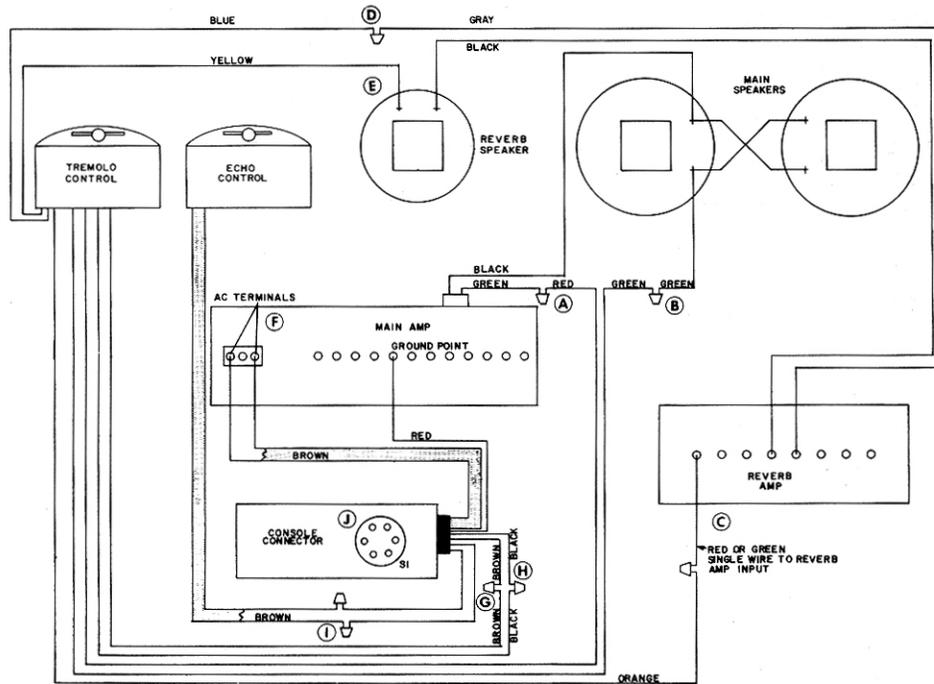

Figure 2 M 100 Connections
**M100:** Cut off the S-pin plug from the console connector and strip all three leads about 1/4". Solder the brown cord to the outside AC terminals under the metal cover on the lefthand side of the rear apron of the power amplifier. (F on figure 2) Fasten the red lead to any convenient ground point on the amplifier chassis. (F on figure 2)